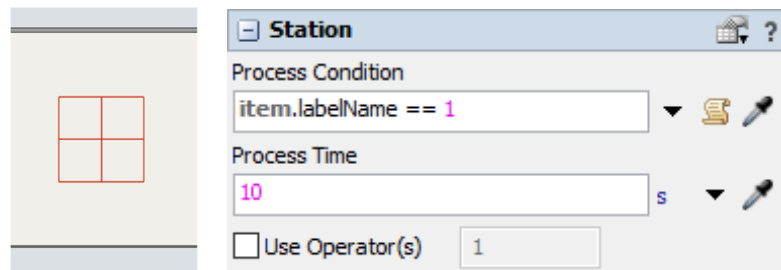

Fig. 23 Service station and its parameters
6. **Set Conveyor Speed** – allows you to change the conveyor speed (Fig. 23).
Station is a decision-point variant that allows processing elements on principles identical to those in standard *Processor* machines (Fig. 23). You can define the condition that must be met to start processing and the processing time. You can also assign operators to perform tasks.